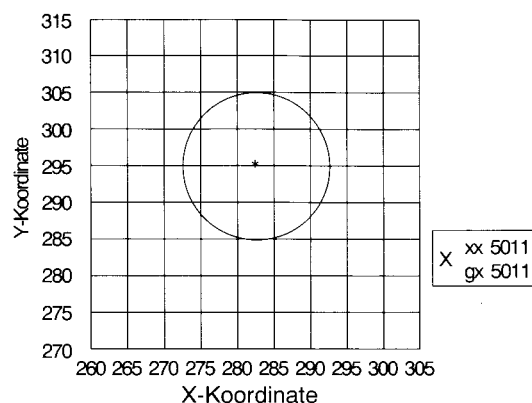

Fig. 8
- ④ Press the "P+" key, and then vary the screen voltage control until you cannot distinguish the 100% black from the 80% black.
- ① This adjust should be done after SCREEN VOLTAGE adjustment.
- ② Press the "normal" key on the remote control unit.
- ③ Set the marker point to be $X=283 \pm 8$, and $Y=295 \pm 8$ at the condition of LOW LIGHT(4ft.L) and HIGH LIGHT(45ft.L) by using the color analyzer balance checker as shown fig.8.
- ① Supply the COLOR signal to the TV.
- ② Set the color, contrast, brightness to normal using the remote control key(→, ←).
- ③ Vary the focus control volume of FBT lest the HALO symptom should appear anywhere.
- ① Using the remote control unit with the "factory" key, change the mode into the "factory service mode".
- ② Change the mode into the TV mode.